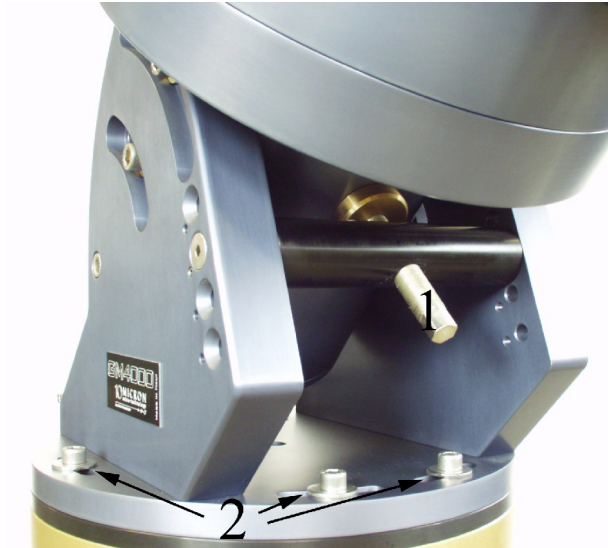
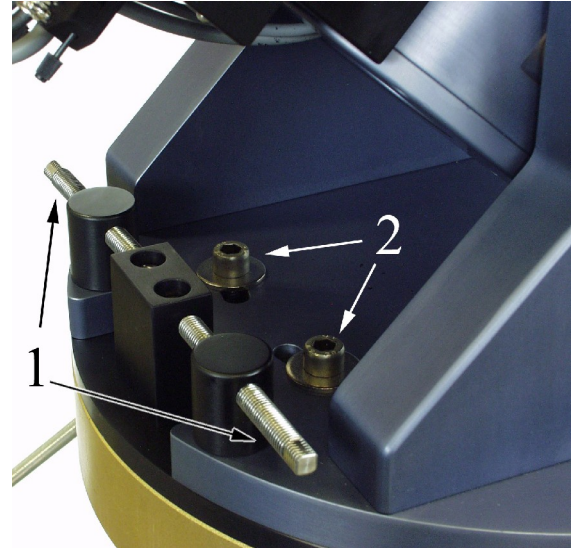

Fig. 4.18: Altitude adjusting screw.
Fig. 4.19: Azimuth adjusting screws.
To make the fine altitude and azimuth adjustment you must locate the altitude screw (Fig. 4.18, n.1) and the azimuth screws (Fig. 4.19, n.1) on the mount.
2. Loosen about a half turn the six screws holding the mount to the pier (Fig. 4.18, n.2 and Fig. 4.19, n.2).